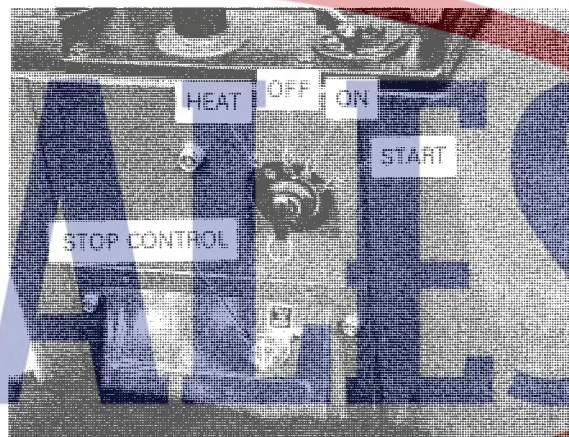

Figure 16 — Key Switch and Stop Control
3. Turn the key switch to the "START" position, Figure 16. When the engine starts, release the key. Check to be sure the warning lights go out. If the engine fails to start after cranking for approximately 10 seconds, refer to the following "COLD WEATHER STARTING" information.